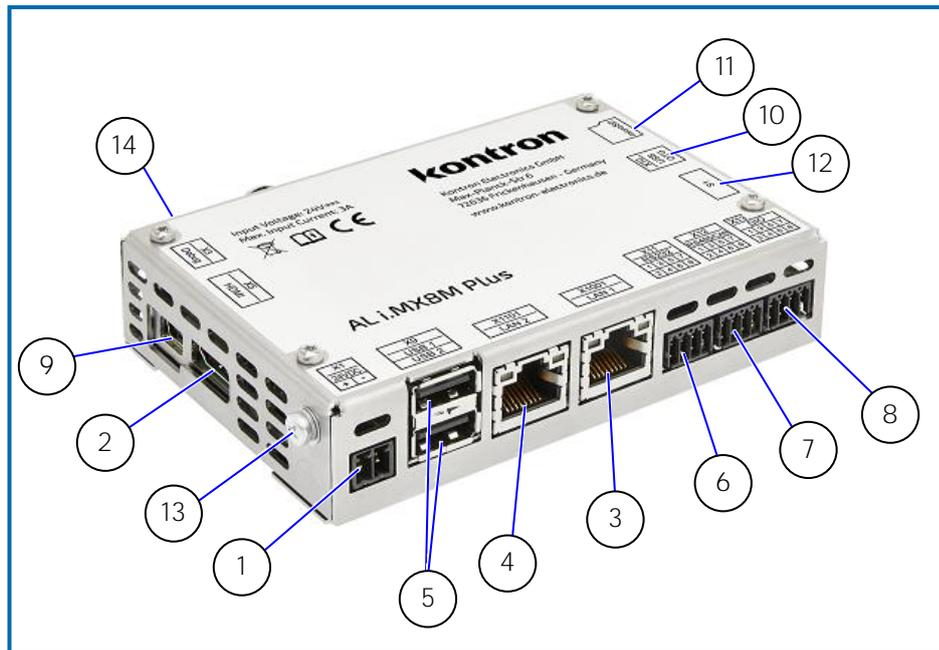

Figure 6: Top Side View
There is one 2-pin power connector on the top side of the board supporting an input DC voltage range of 24 V DC $\pm 20\%$, see Figure 6 (pos. 1). The mating connector required to connect the power connector to a DC main power source is supplied with the AL i.MX8M Plus QC. For information on how to connect the supplied mating connector to the input power source, refer to Chapter 7.2: Wiring the DC Mating Power Connector.
There is one HDMI interface (up to 4k resolution) for video solutions, see Figure 6 (pos. 2). The HDMI interface is not designed for connecting cables longer than 3 m. Depending on the monitor and the installation situation, a suitable HDMI cable with folding ferrite must be selected.
There are two LAN ports, see Figure 6 (pos. 3 and 4). In the software these are referred to as ETH0 and ETH1. The assignment between LAN2/LAN1 and ETH0/ETH1 depends on the software. In order to achieve the specified performance of the Ethernet ports, shielded category 5 twisted pair cables must be used with 10/100 Mbit/s and Category 5E, 6 or 6E with 1 Gbit/s LAN networks. For the pin assignment of the RJ45 Ethernet connectors, refer to Chapter 10.2.3: Ethernet RJ45 Connector (X1001 + X1101)
There are two USB 2.0 ports allowing for the connection of USB 2.0 compatible devices, see Figure 6 (pos. 5). The USB ports are designed for connecting short cables only.
There is a RS232 interface (RX/TX) supporting RTS/CTS, see Figure 6 (pos. 6). The RS232 interface is not designed for connecting cables longer than 3 m.
The RS485 interface in Figure 6 (pos. 7) contains also the wiring for CAN. The RS485 interface is not designed for connecting cables longer than 30 m.
The CAN interface in Figure 6 (pos. 7) also contains the wiring for RS485. The CAN address switches 1...4 are connected directly to GPIO pins and can therefore also be used for other purposes. The CAN interface is not designed for connecting cables longer than 30 m.
There is a four port DIO interface available on the front panel of the AL i.MX8M Plus QC, see Figure 6 (pos. 8).
There is a debug interface using UART protocol with a Mini-B USB connector, see Figure 6 (pos. 9).
There is a USB 3.0 Type-C DRP interface that can act as USB device or host, see Figure 6 (pos. 10).
There is a card slot to connect a microSD card for extra memory, see Figure 6 (pos. 11).
There is a functional earth self-clinching nut on the side of the housing connected to the electronic ground inside the system and to the mounting clamp on the backside of the housing, see Figure 6 (pos. 13).
There is a buzzer connected to PWM_1 (F18) via a N-channel MOSFET, see Figure 6 (pos. 14). The buzzer is located in the housing.